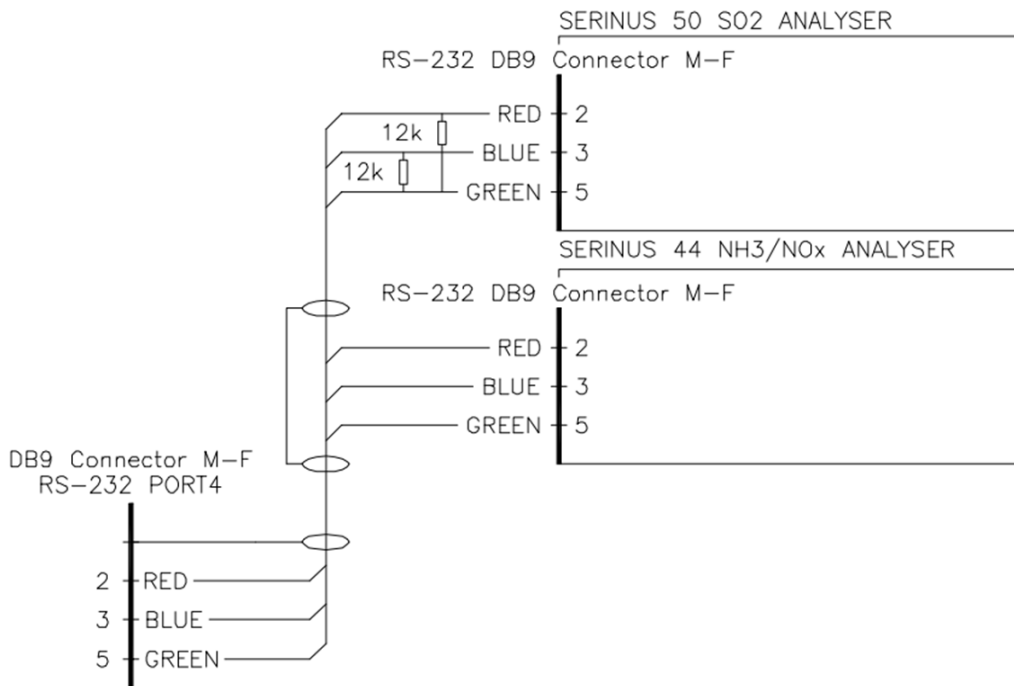

Figure 28 – Multidrop RS232 Cable Example
- A 12K ohm terminating resistor should be placed on the last connector of the cable. (Connect from pin 2 to pin 5 and from pin 3 to pin 5) (Refer to Figure 28).